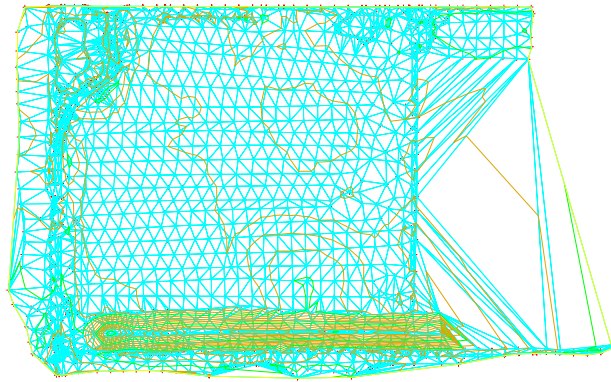

Figure 3-58 The TIN surface with the surface points
6. Choose the **OK** button to close the **Surface Properties - EG Surface** dialog box. Figures 3-58 and 3-59 show the TIN surface with the surface points and the point style selected, respectively. Note that the surface points are represented by the symbol that was selected for the point display in the surface style.